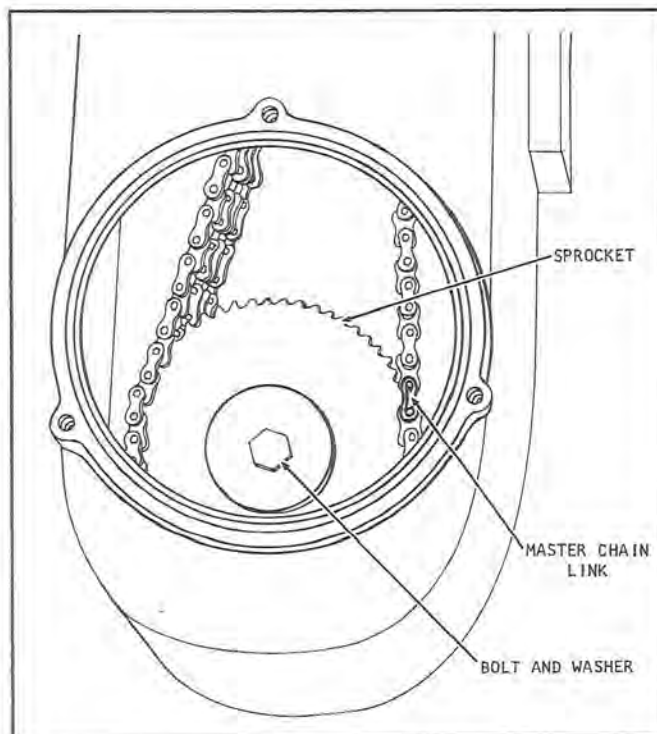

Figure 14
10. Remove the bolt and washer (figure 14) from the end of the drive shaft. Tap the drive sprockets to the right to remove the drive shaft from the gear case.